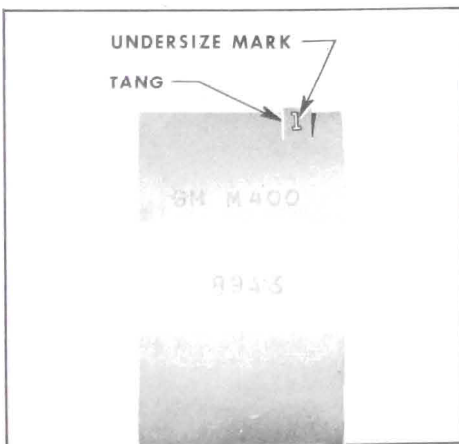

Figure 2-29—Location of Undersize Mark on Bearing Shell
7. If a new bearing is being selected, try a standard size, then each undersize bearing in turn until one is found that is within the specified limits when checked for clearance with Plastigage. NOTE: Each undersize bearing shell has a number stamped on outer surface on or near the tang to indicate amount of undersize. See Figure 2-29.
and check again with Plastigage. **NOTE:** Each undersize shell has a number stamped on outer surface on or near the tang to indicate amount of undersize. See Figure 2-29.